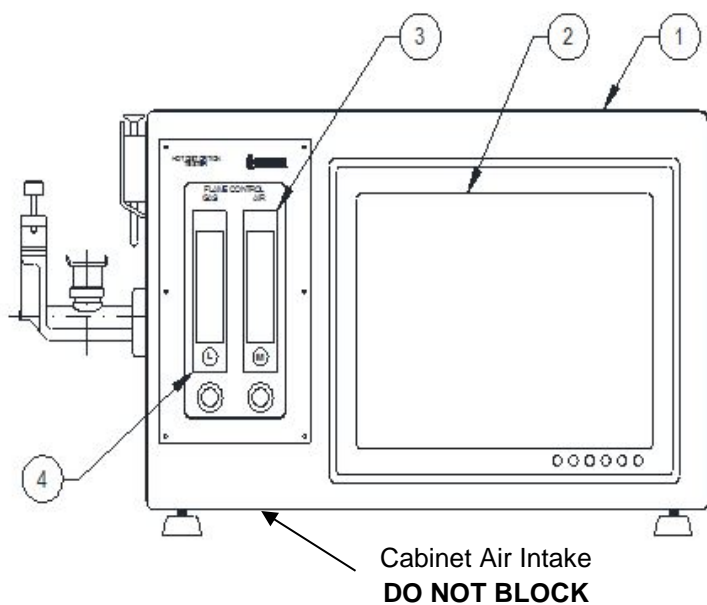

Figure 1: Tester Front View
1. To export data, turn OFF the machine and insert the HD-Data flash drive into the USB port in the docking panel on the right side of Tester (see Figure 1). This is necessary for the operating system to recognize the flash drive. Turn ON the machine and follow the screen instructions.